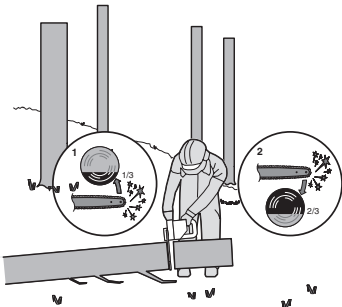

Figure 4
When the log is supported on one end, as illustrated in Figure 4, cut 1/3 the diameter from the underside (underback) (1). Then make the finished cut by overbacking (2) to meet the first cut.